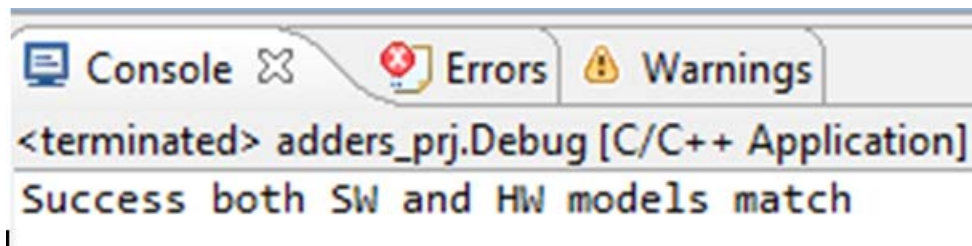

Figure 3-10: Expected Console Output
3. Select fir\_prj.Debug and click ok. Console should look like Figure 3-10.